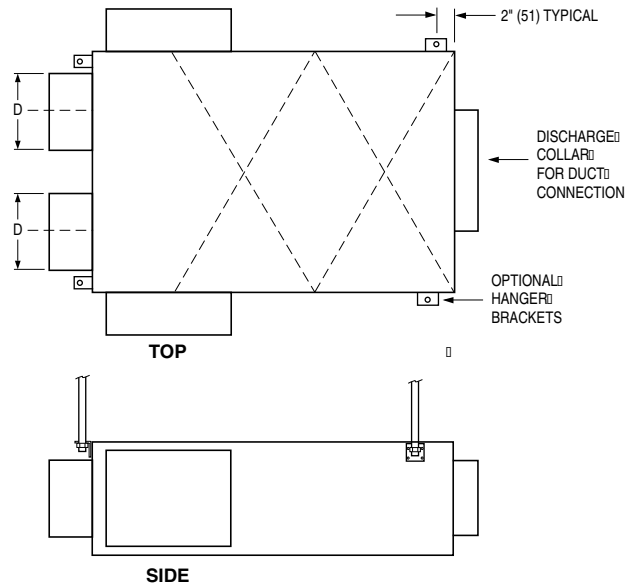

Figure 1: Dual Duct Terminal Unit Support using hanger brackets and rods.
Slip each inlet duct over the inlet collar of the terminal. Fasten and seal the connection as described in the job specification. The diameter of the inlet duct "D" (see Figure 1) for round inlets (Models 3230 and 3240 with mixing attenuators) must be equal to the listed size of the terminal; i.e., a duct that actually measures 8" (203) must be fitted to a size 8 terminal inlet. The inlet collar is made 1/8" (3) smaller than nominal duct size in order to fit inside the duct. Model 3210 (no mixing attenuator) utilizes flat oval inlet collars on unit sizes 12 through 16. They are undersized for flexible duct connection. For hard inlet duct connections, refer to submittal drawing for dimensional data. The supply ductwork should be insulated up to the face of the terminal unit.